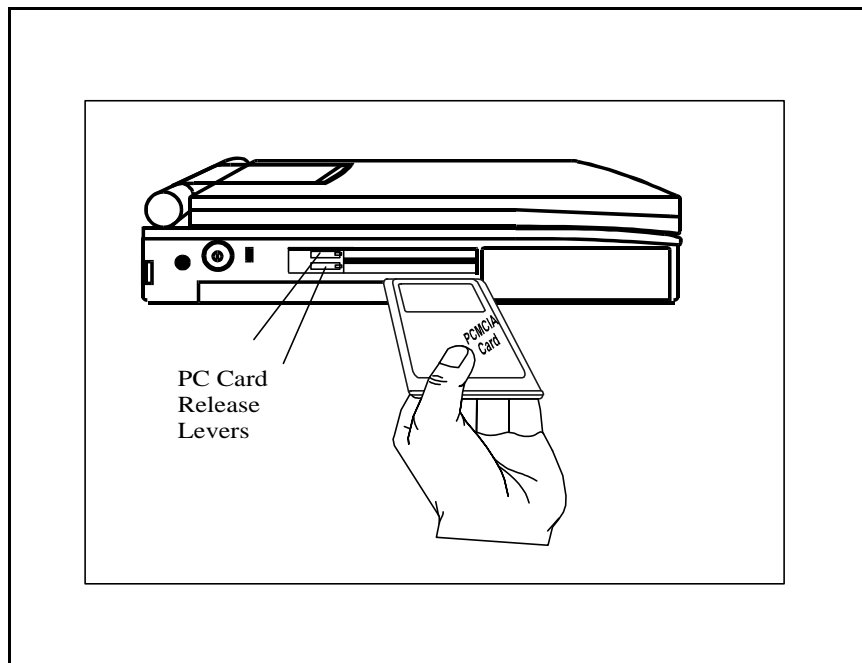

Figure 6-7 Installing/Removing PCMCIA Options
2. Press the upper card eject button to eject the upper card, lower button controls the lower card and use both buttons for Type III devices (refer to Figure 6-7).